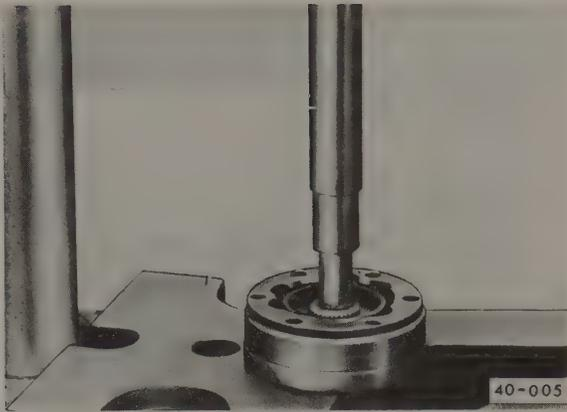

Fig. 5-9. Driving axle shaft out of inner CV joint with punch (drift) and thrust plate (support).
- Support the hub of the CV joint and press the axle shaft out of the joint, as shown in Fig. 5-9.